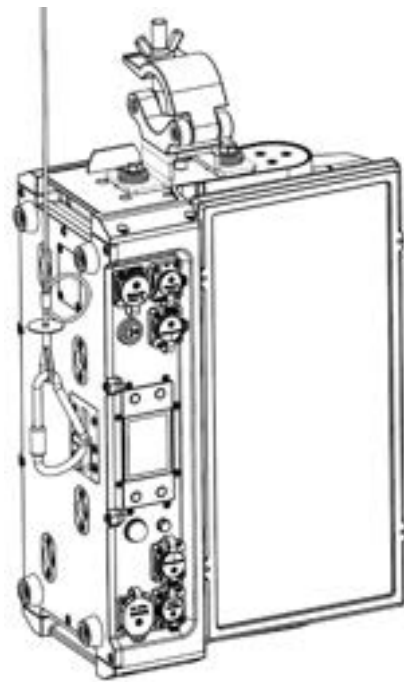

Figure 6. Vertical hanging
- First figure 6: Dust-tight – No ingress of dust, complete protection against contact.